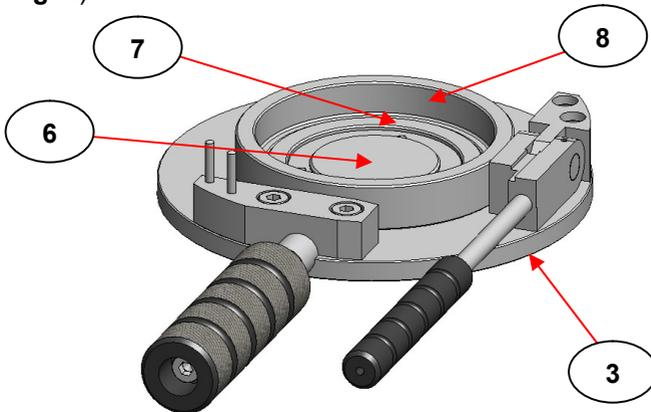

Fig 4. Guide Ring and Spacer Ring Fitted to Lower Platen Pressing Assembly
Note: *In the instruction manual for the Atlas™ Heated Platens (P/N GS15515) the diagram (Fig 4.) shows where the cooling chamber (1) is connected in the water cooling circuit. It is advisable to have the cooling chamber (1) in-line **before** the cooling water passes through the Heated Platens, to try and ensure that any cooling water will always be at its lowest temperature when passing through the cooling chamber (1) first.*
With the spacer ring (7) in position, take the guide ring (8) and place this around the spacer ring (7). The smaller inner diameter edge of the guide ring (8) contacts with the outer diameter of the spacer ring (7). (See Fig 4.)